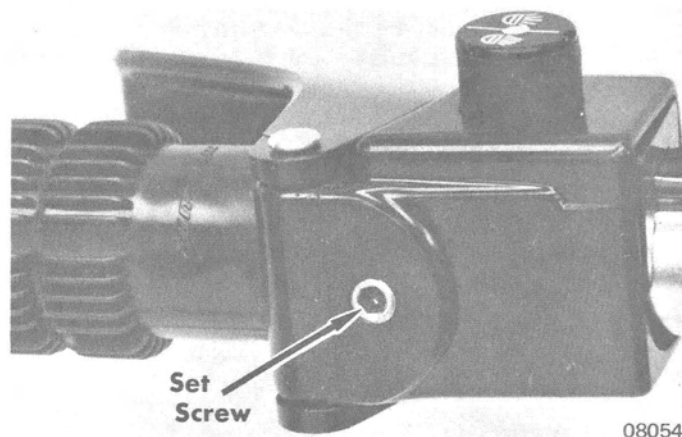

Figure 2. Control Lever Set Screw
7. Loosen set screw in throttle lever mount. (Figure 2) Slide lever against handlebar grip and pull grip and lever off handlebar. Pull throttle cable and stop switch wires thru dash opening.
8. Loosen set screw in brake lever mount. (Figure 2) Slide lever against handlebar grip and pull grip and lever off handlebar. Pull brake cable and dimmer switch wires thru dash opening.